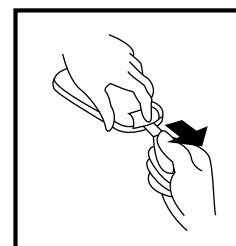

Figure 1
- Before using the remote control, remove the battery protection sticker. To remove the sticker secure the battery cover with finger then pull tab. (Figure 1).